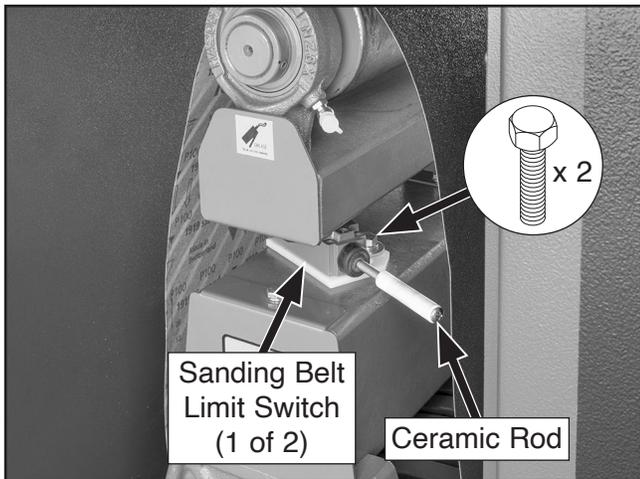

Figure 78. Limit switch adjustment components.
Sanding belt tracking limit switches are positioned on both sides of the sanding belt to act as emergency machine stops if the belt travels too far to one side or the other during oscillation (see **Figure 78**).
4. Measure distance between edge of sanding belt to limit switch ceramic rods (see **Figure 78**).
5. Loosen adjustment bolts shown in **Figure 78**, move switches so belt and rods are about 1/4" apart, then tighten bolts to secure.